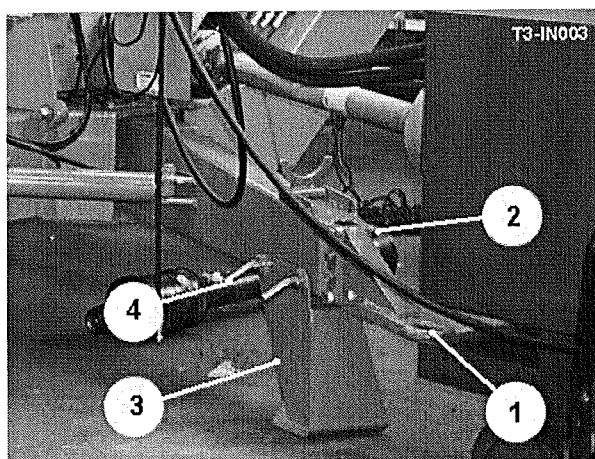

Fig 1
Raise the harvester on the pick-up hitch. The harvester chassis should be nominally level. If the chassis is in a nose up attitude or extremely nose down, the drawbar eye (item 1, figure 1) should be adjusted accordingly to compensate. To adjust the eye position, remove the bolts (item 2, figure 1) and move the eye to the required position. Refit the eye using a minimum of 3 bolts. The eye can be turned over to achieve a second range of adjustments. The stand (item 3, fig 1) is provided so that the machine is held at a suitable height for safe coupling to the tractor. When the machine has been securely attached to the tractor, the stand can be folded back into the working position by removing the pin (item 4, figure 1), rotating the stand and then resecuring with the pin.